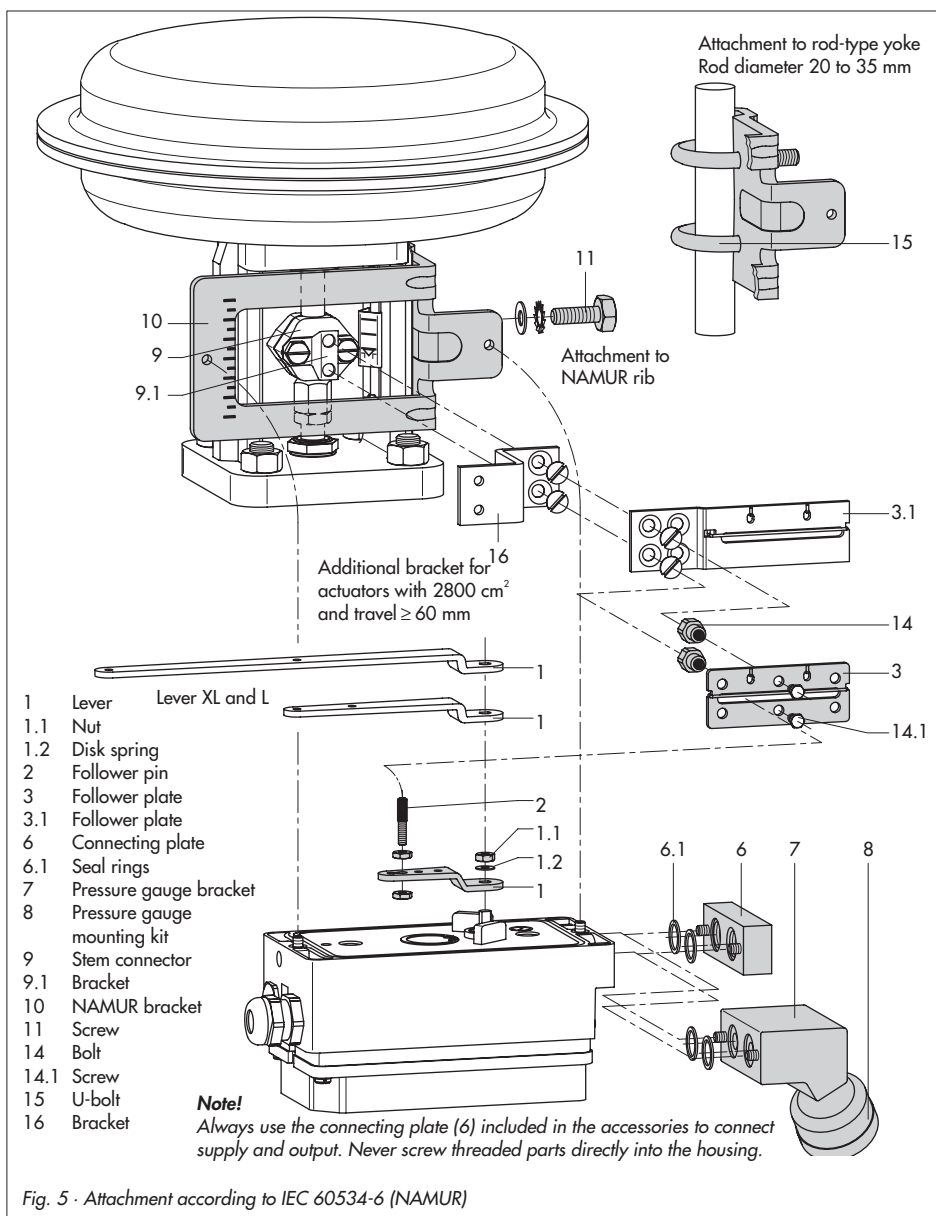

Fig. 5 · Attachment according to IEC 60534-6 (NAMUR)
Table 3 Attachment to NAMUR ribs or control valves with rod-type yokes (20 to 35 mm rod diameter) according to IEC 60534-6, see Fig. 5
**For the pneumatic connection** either a connecting plate (6) or a pressure gauge bracket (7) must be fixed to the housing, depending on the accessory chosen. Make sure the seal rings (6.1) are correctly inserted (see Fig. 5, bottom right).